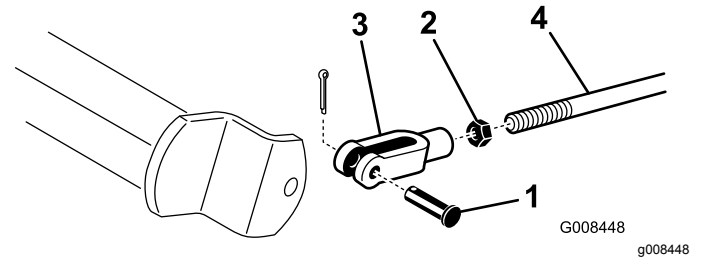

Figure 45
- A. Disconnect the brake rods by removing the cotter pin and clevis pin (Figure 45).
- B. Loosen the jam nut and adjust the clevis accordingly (Figure 45).
- C. Assemble the clevis to the brake shaft (Figure 45).